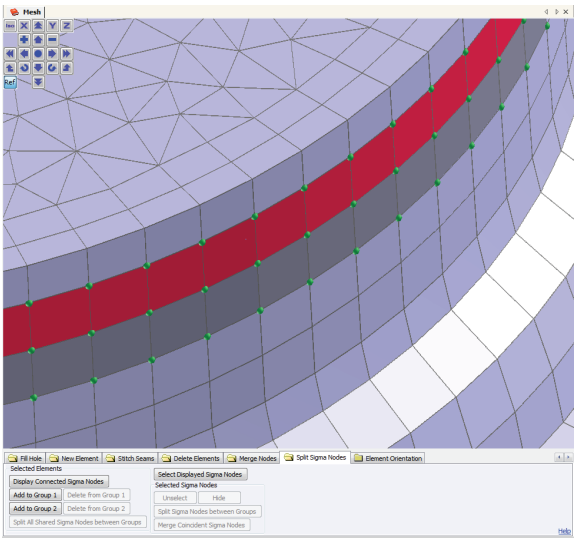
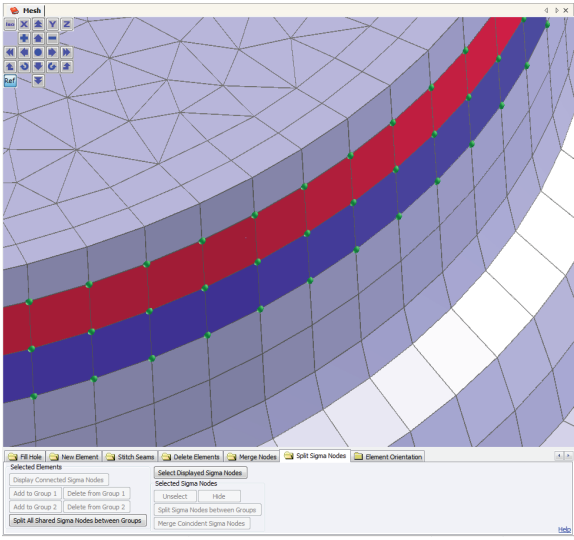

Figure 5.51 After adding elements to Group 1. Notice that the elements belonging to Group 1 are displayed in red.
Figure 5.52 After adding elements to Group 2. Notice that the elements belonging to Group 2 are displayed in blue.
- Left-click with *shift-key* held down to select elements and add them to Group 1 (Group 2) by clicking on **Add to Group 1 (Add to Group 2)**. See Figure 5.51 and Figure 5.52. The elements added to Group 1 are displayed in Red and the elements added to Group 2 are displayed in Blue. To delete elements from a Group, select the element and click on **Delete from Group 1 (Delete from Group 2)**. Note: We need to first create two different groups of elements between which common nodes are split.